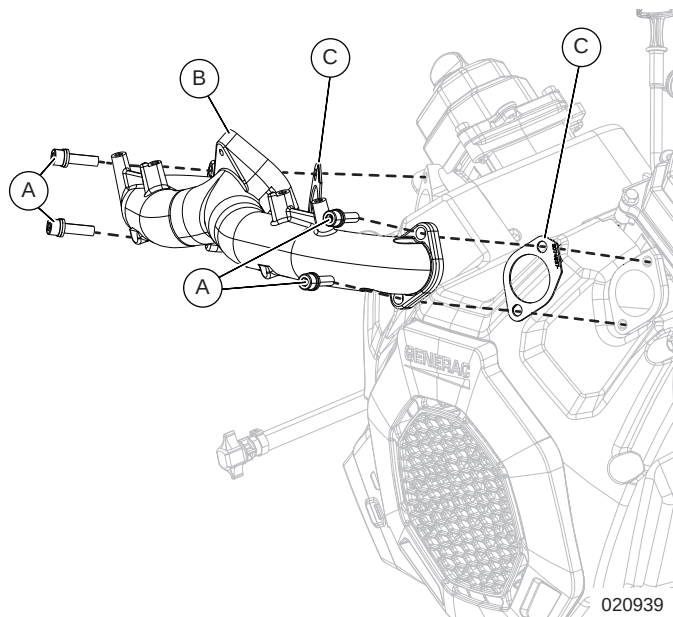

Figure 12-27. Install Intake Manifold onto Cylinder Head
1. See Figure 12-27. Install spark plugs (A) into both cylinders.